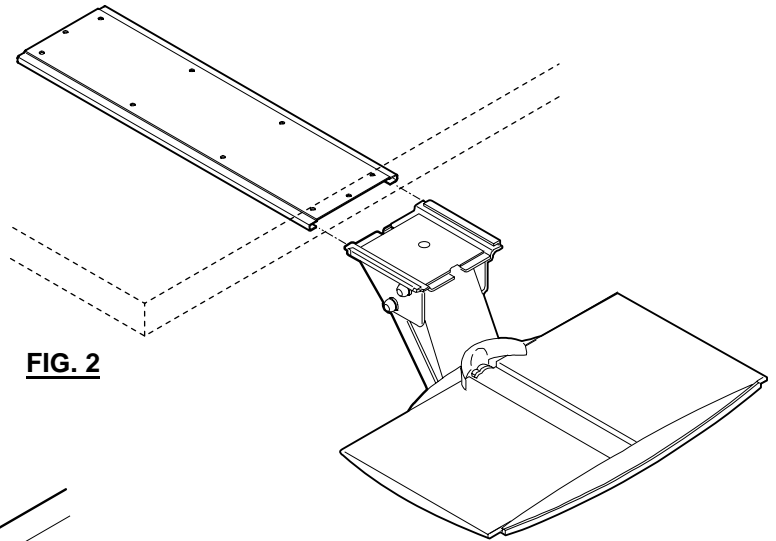

FIG. 2
2. Slide arm/tray assembly into track groove (**Fig. 2**).
3. Install screw with rubber bumper (provided) in center front hole of track. Position track guard in front of track and use holes in track guard as a template to mark and drill holes in work surface. Drill two holes, 1/8" dia. x 5/8" deep. Mount track guard to underside of work surface using two (2) #10 x 5/8" panhead, Type AB screws provided.